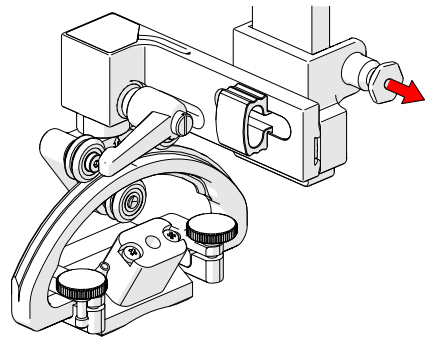

Fig. 234 - Pull latch pin
2. Pull the latch pin to allow movement of the probe holder (Fig. 234).